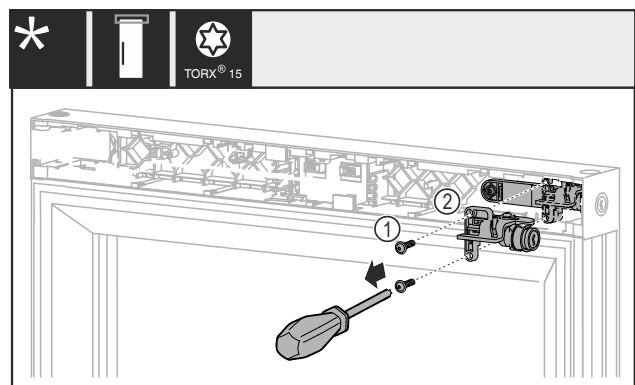

Fig. 16
- ▶ Remove the screws Fig. 16 (1).
- ▶ Remove the mechanical lock Fig. 16 (2).